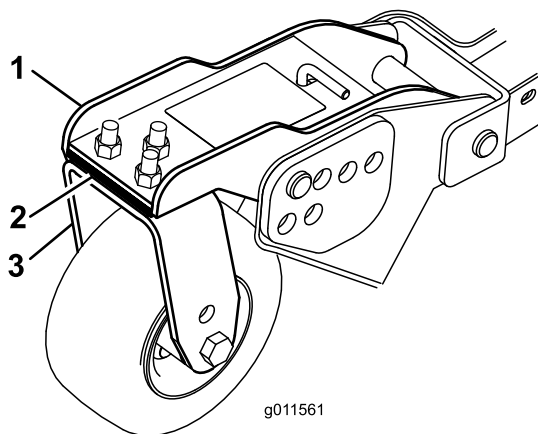

Figure 31
Rotate blade of each spindle until the ends face forward and backward. Measure from the floor to the front tip of the cutting edge. Adjust 3 mm (1/8 inch) shims on front castor arm(s) to match height of cut to decal (Figure 31). For the outside blade spindle only, refer to Adjusting the Cutting Unit Pitch.
3. If the inside edge of the side cutting unit is too high relative to the outside edge of the front cutting unit, remove one 3 mm (1/8 inch) shim from the bottom of the front inside castor arm on the side cutting unit (Figure 31). Recheck measurement between outside edges of both side cutting units and inside edge of side cutting unit to outside edge of front cutting unit.